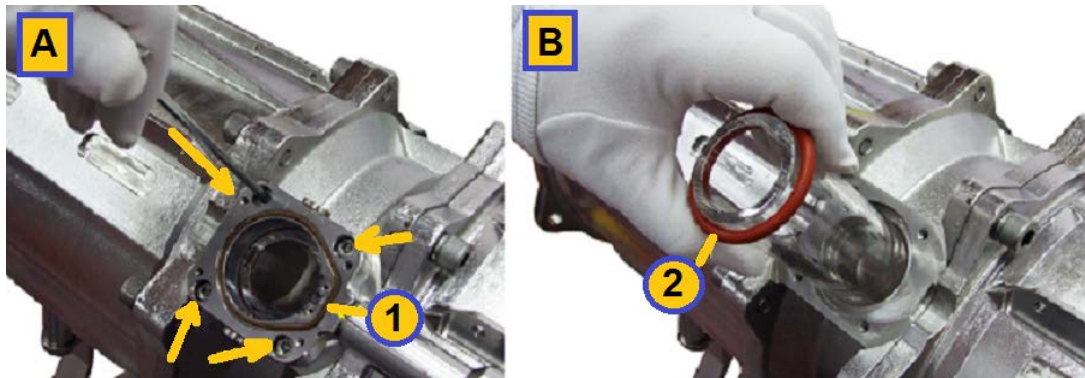

Figure 10-21: Replacing the Quartz Sleeve (Generic View 1)
- Two O-rings (See view B in Figure 10-21 below)
- Step 25.** Mount the new O-ring onto the quartz sleeve (as shown in view B in **Figure 10-21** above) and insert the sleeve into the Unit. Make sure it is centered.